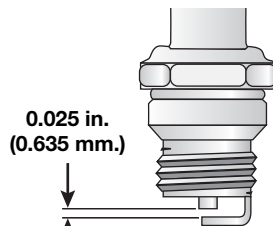

Fig. 41
3. Replace cracked, fouled or dirty spark plug. Set the air gap at **0.025 in. (0.635 mm.)** using a feeler gauge (Fig. 41).